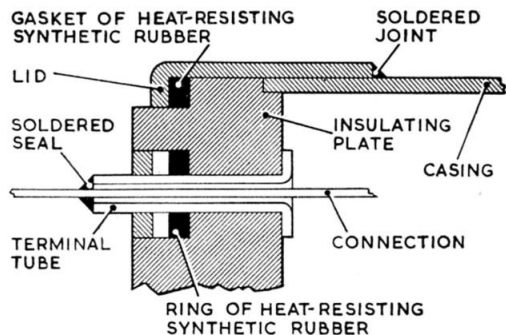

Fig. 3. Method of hermetically sealing the relay
4. The method of hermetically sealing the relay in its casing is illustrated in fig. 3. The connections from the contact springs and coil tags are brought out through the terminal tubes, and the ends of the tubes are sealed with solder. The lid is placed over the casing and pressure is applied to its top to exclude all air from between the synthetic rubber gasket on top of the insulating plate and the inside of the lid. Whilst under this pressure, the lid is soldered to the casing.